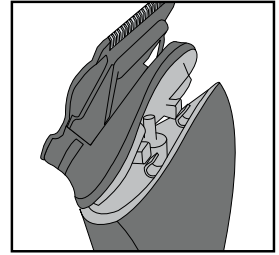

Fig. 3.
- These prongs on the head should rest on top of the metal clips from the handle (Fig. 3).